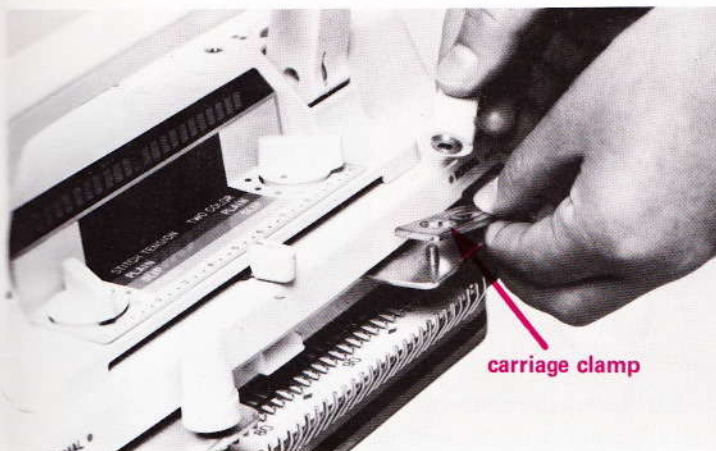

Fig. 7
- Unscrew and lift off the right hand white knob on the carriage and take off the carriage clamp. Replace the knob but do not tighten it, and partially unscrew the left hand knob (fig. 7).